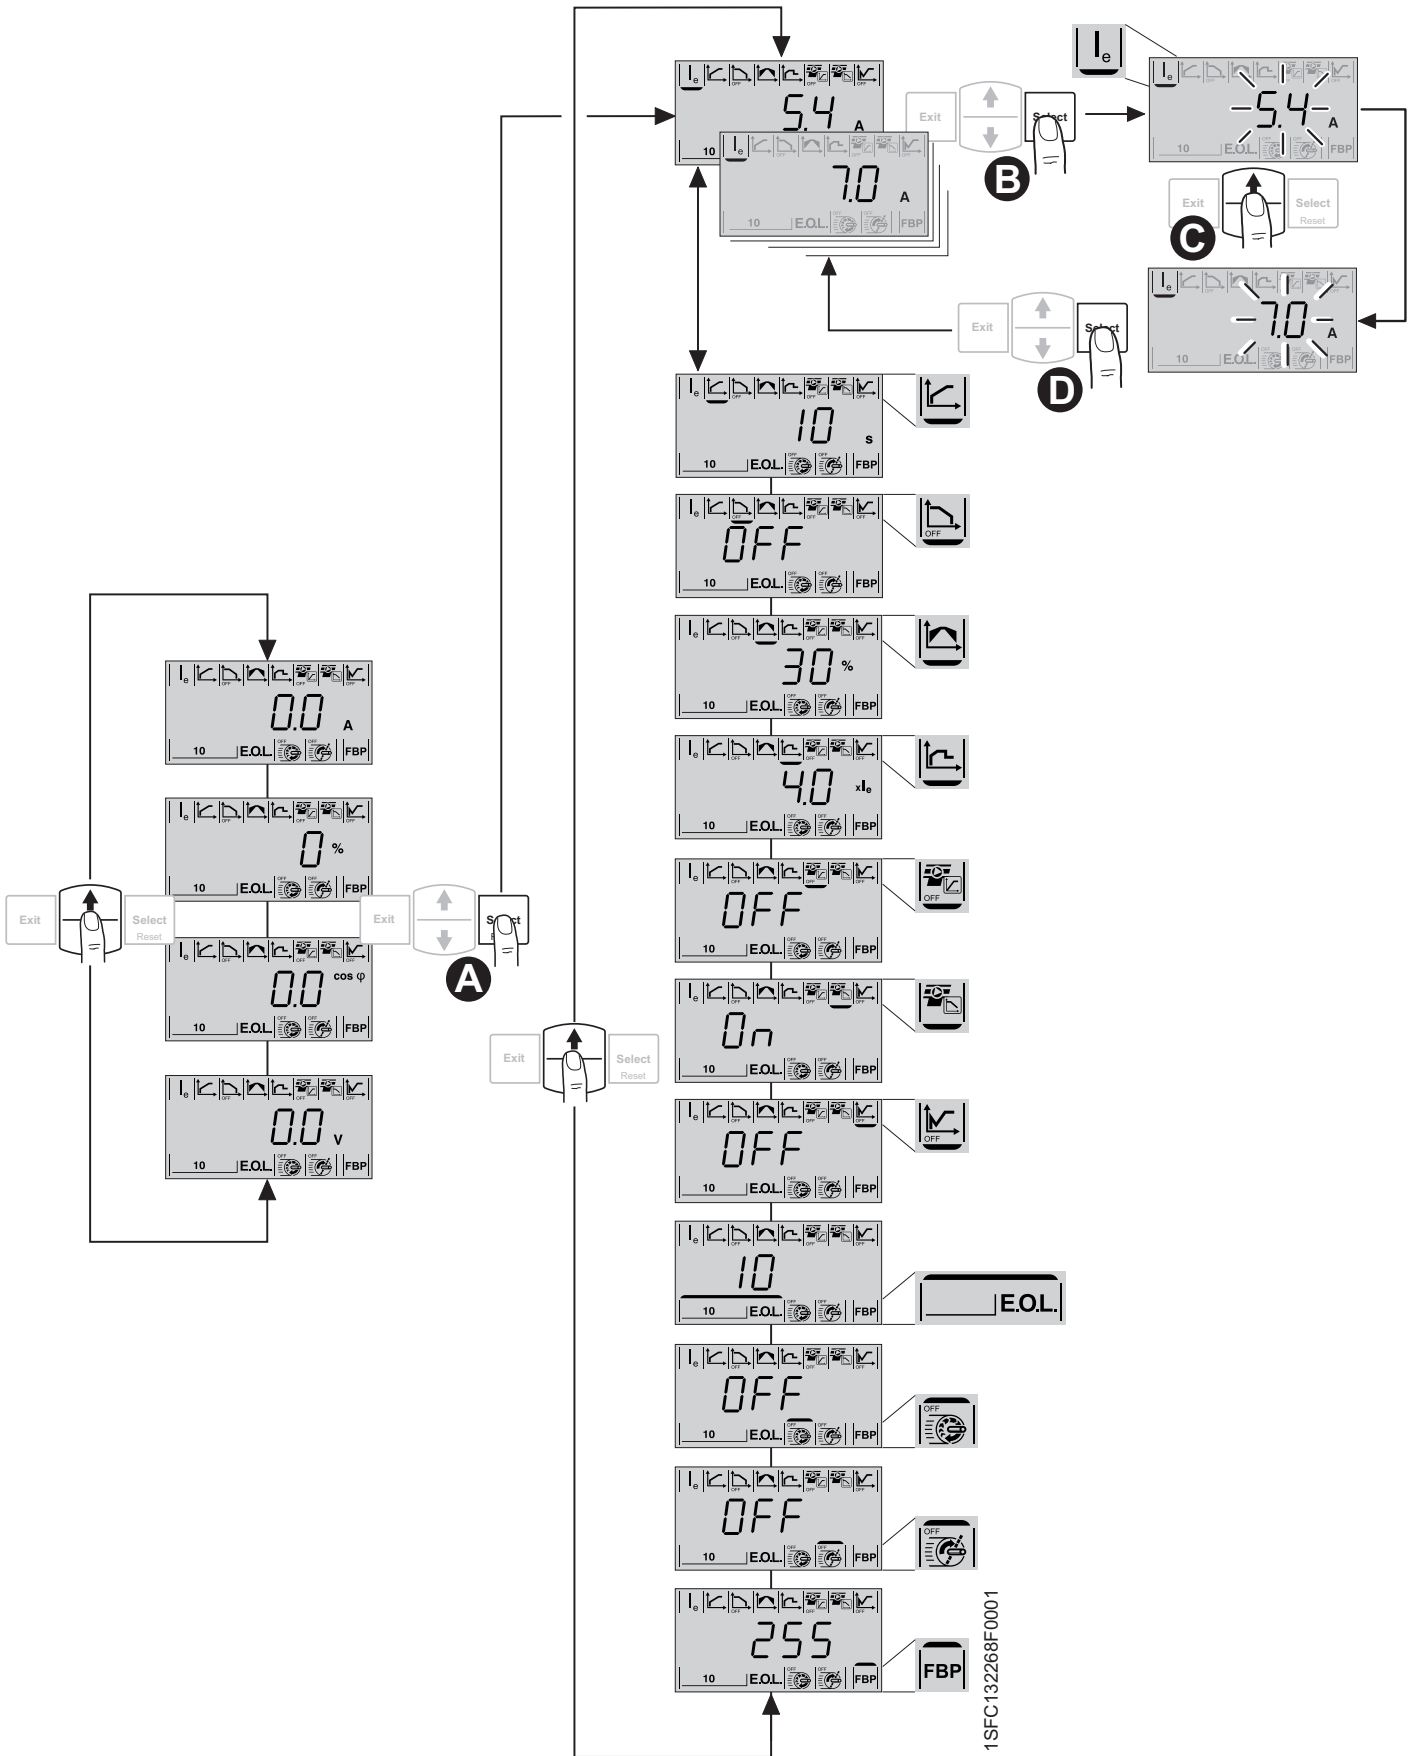

Figure 6.10: Navigating the menu
3. Press the Select key to Enter the Settings level. See **A** in figure 6.10. A cursor is marking the accessible parameter, in this case Rated Current  $I_e$ .
4. Press Select key again to enable editing of the parameter Rated Current. See **B** in figure 6.10. A flashing value on the middle row indicates that the parameter is available for scrolling and for selection.
5. Increase or decrease the value by pressing Navigation key repeatedly. Holding the key down will speed up the scrolling. See **C** in figure 6.10.
6. When the rated current of the motor is reached, press the Select key again to save. See **D** in figure 6.10.